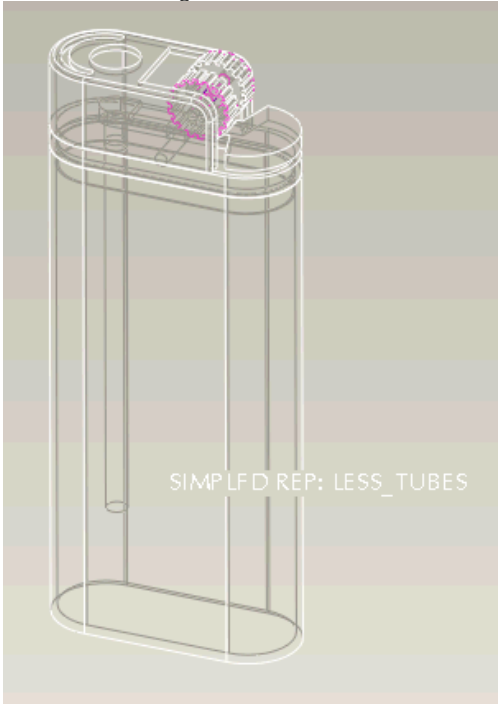

Figure 11
10. The results of substituting the "tubes" envelope can be seen in Figure 11.